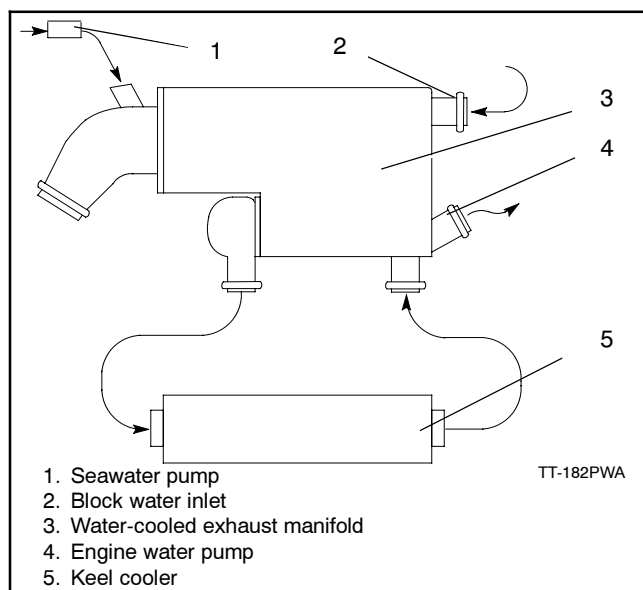

Figure 9 Keel Cooling Installation
2.21 Install the customer supplied keel cooler as shown in Figure 9.